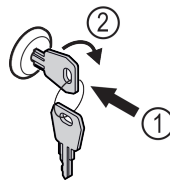

Fig. 207
- Insert the key. Fig. 207 (1)
- Turn the key clockwise by 90°. Fig. 207 (2)